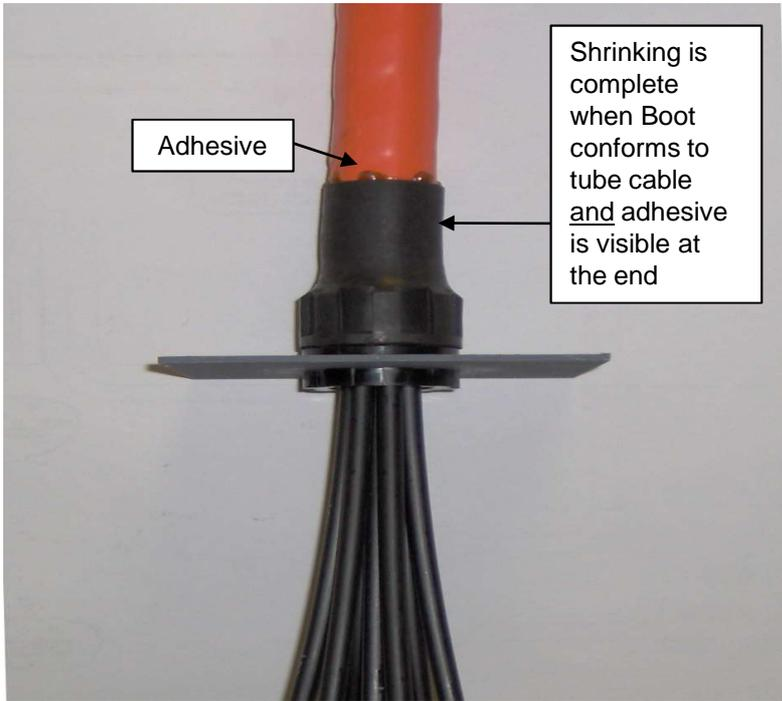
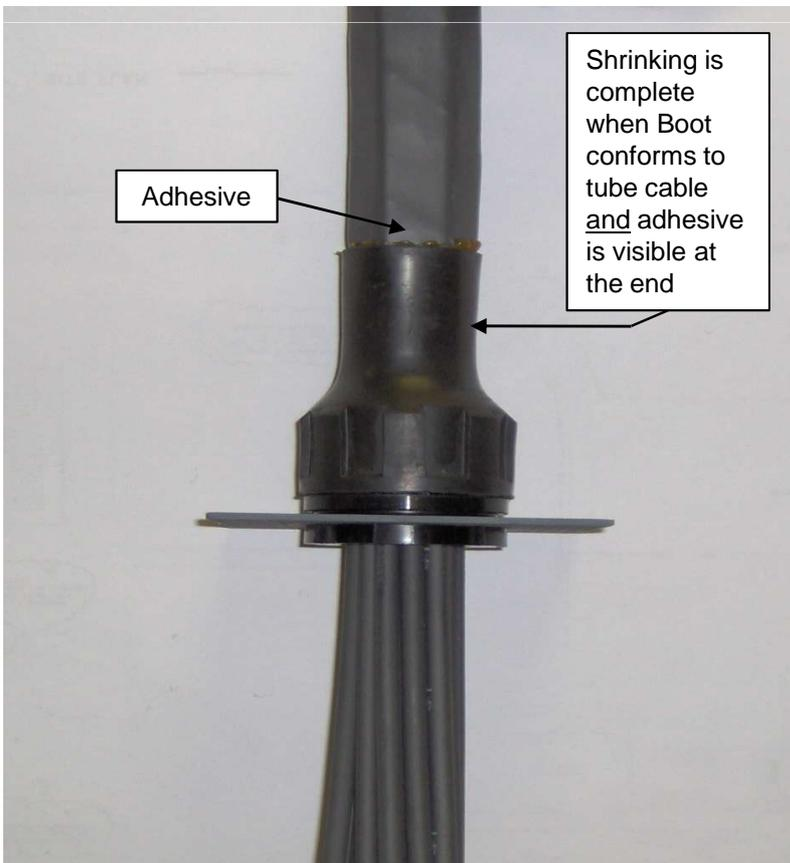

Figure 6a
Figure 6b
8.12 Continue shrinking boot uniformly until boot conforms to tube cable and hot-melt adhesive is visible at the end of the boot signifying a good seal was made. See Fig. 6a and Fig. 6b.
9.14 Continue shrinking boot uniformly until boot conforms to tube cable and hot-melt adhesive is visible at the end of the boot signifying a good seal was made. **Refer to Fig. 6a and Fig. 6b.**